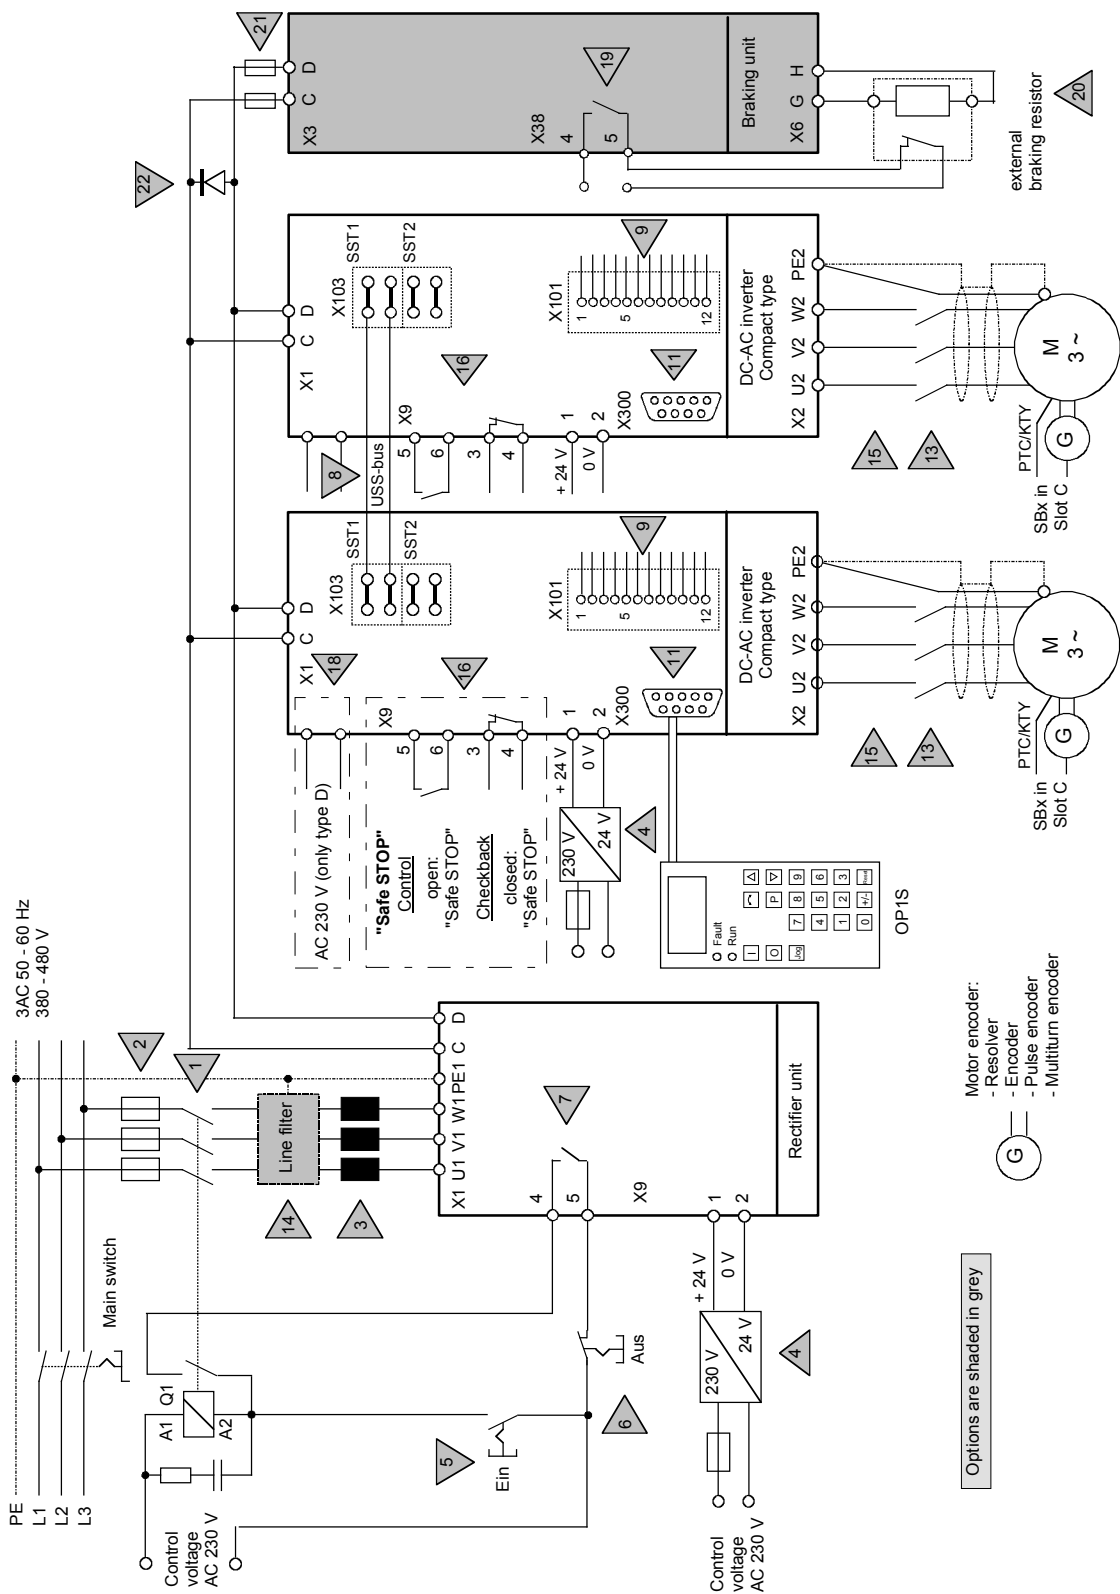

Fig. 2-5 Configuration example: multi-axis drive with Compact units
- Multi-axis drive with Compact units (see Fig 2-5 on page 2-10)